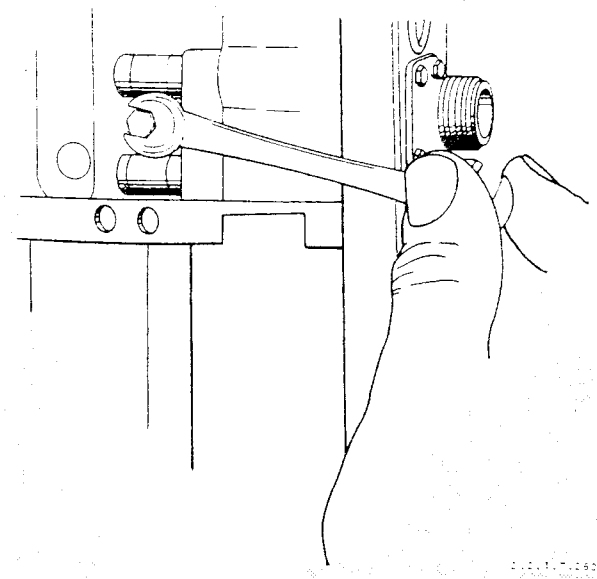

Figure 2-40. Adjusting Sear-Pin of Gun Charger to Non-Firing Position
e. Withdraw sear-pin into mounting bar (non-firing position) by turning sear-pin adjuster clockwise, as far as possible. (See figure 2-40.)